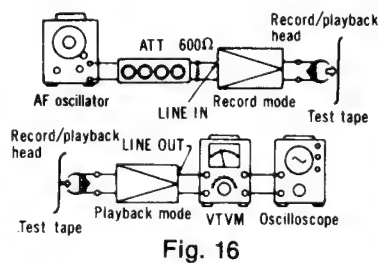

Fig. 16
<p>Overall gain [TAPE [2]]</p> <p>Condition:</p> <ul style="list-style-type: none"> <li>Record/playback mode</li> <li>Normal tape mode</li> <li>Input level controls ... MAX</li> <li>Standard input level; MIC ... -59.5 ± 4 dB LINE IN ... -24 ± 4 dB</li> </ul> <p>Equipment:</p> <ul style="list-style-type: none"> <li>VTVM</li> <li>AF oscillator</li> <li>ATT</li> <li>Oscilloscope</li> <li>Resistor (600Ω)</li> <li>Test tape (reference blank tape) ... QZZCRA for Normal</li> </ul>	<p>1. Test equipment connection is shown in fig. 16.</p> <p>2. Place UNIT into Normal tape mode, and load the test tape (QZZCRA).</p> <p>3. Place UNIT into record mode.</p> <p>4. Supply 1 kHz signal (-24 dB) from AF oscillator, through ATT to LINE IN.</p> <p>5. Adjust ATT until monitor level at LINE OUT becomes 0.4V.</p> <p>6. Playback recorded tape, and make sure the value at LINE OUT on VTVM becomes 0.4V.</p> <p>7. If measured value is not 0.4V, adjust VR3 (L-CH), VR4 (R-CH).</p> <p>8. Repeat from step (2).</p>  <p>Fig. 16</p>
on is shown in fig. 16.